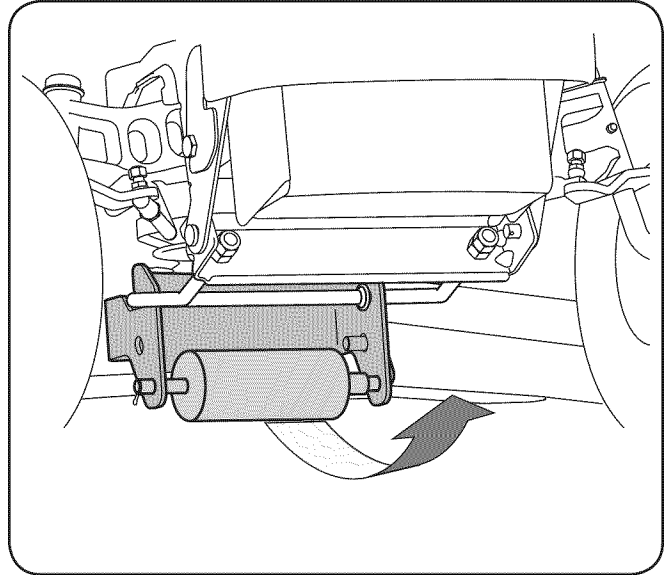

Figure 7-2
8. Gently slide the cutting deck toward the front of the tractor, carefully guiding the hooks on the deck off of the deck stabilizer rod. See Fig. 7-2.